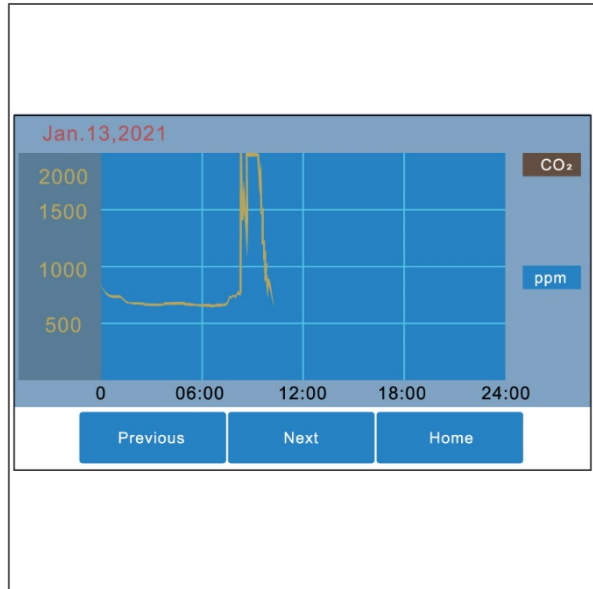

Figure 15
2. The CO2 overview opens (Figure 15).